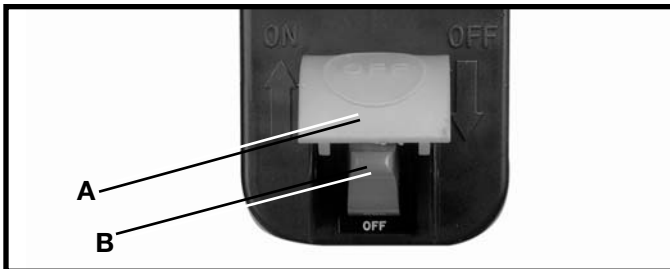

Fig. 39
1. The on/off switch is located underneath the switch shield (A) Fig. 39. To turn the saw "ON," move switch trigger (B) to the up position.